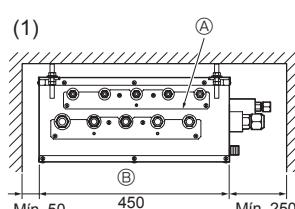

Fig. 4-5
#### (1) Vista frontal (Fig. 4-5)